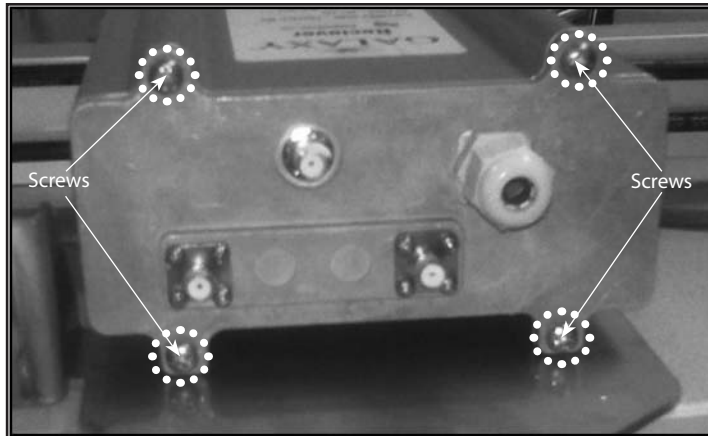

Figure 6: Captive Screws
1. Unscrew the four captive screws securing the receiver cover (see Figure 6).